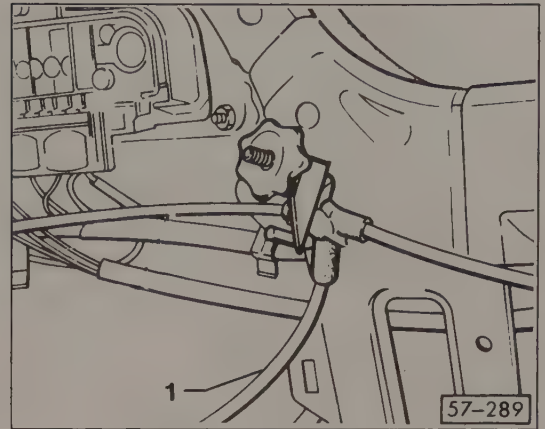

Fig. 5-10. Hose being clamped (1) in right rear of car. Clamp blocks air flow to right front and rear doors.
4. Clamp the hose as shown in Fig. 5-10. If the pump runs longer than 5 seconds when activated, go to step 6. If the pump turns off within 5 seconds, either the right front or rear door activator, or the hose to them is faulty. Go to step 5. Remove the clamp.